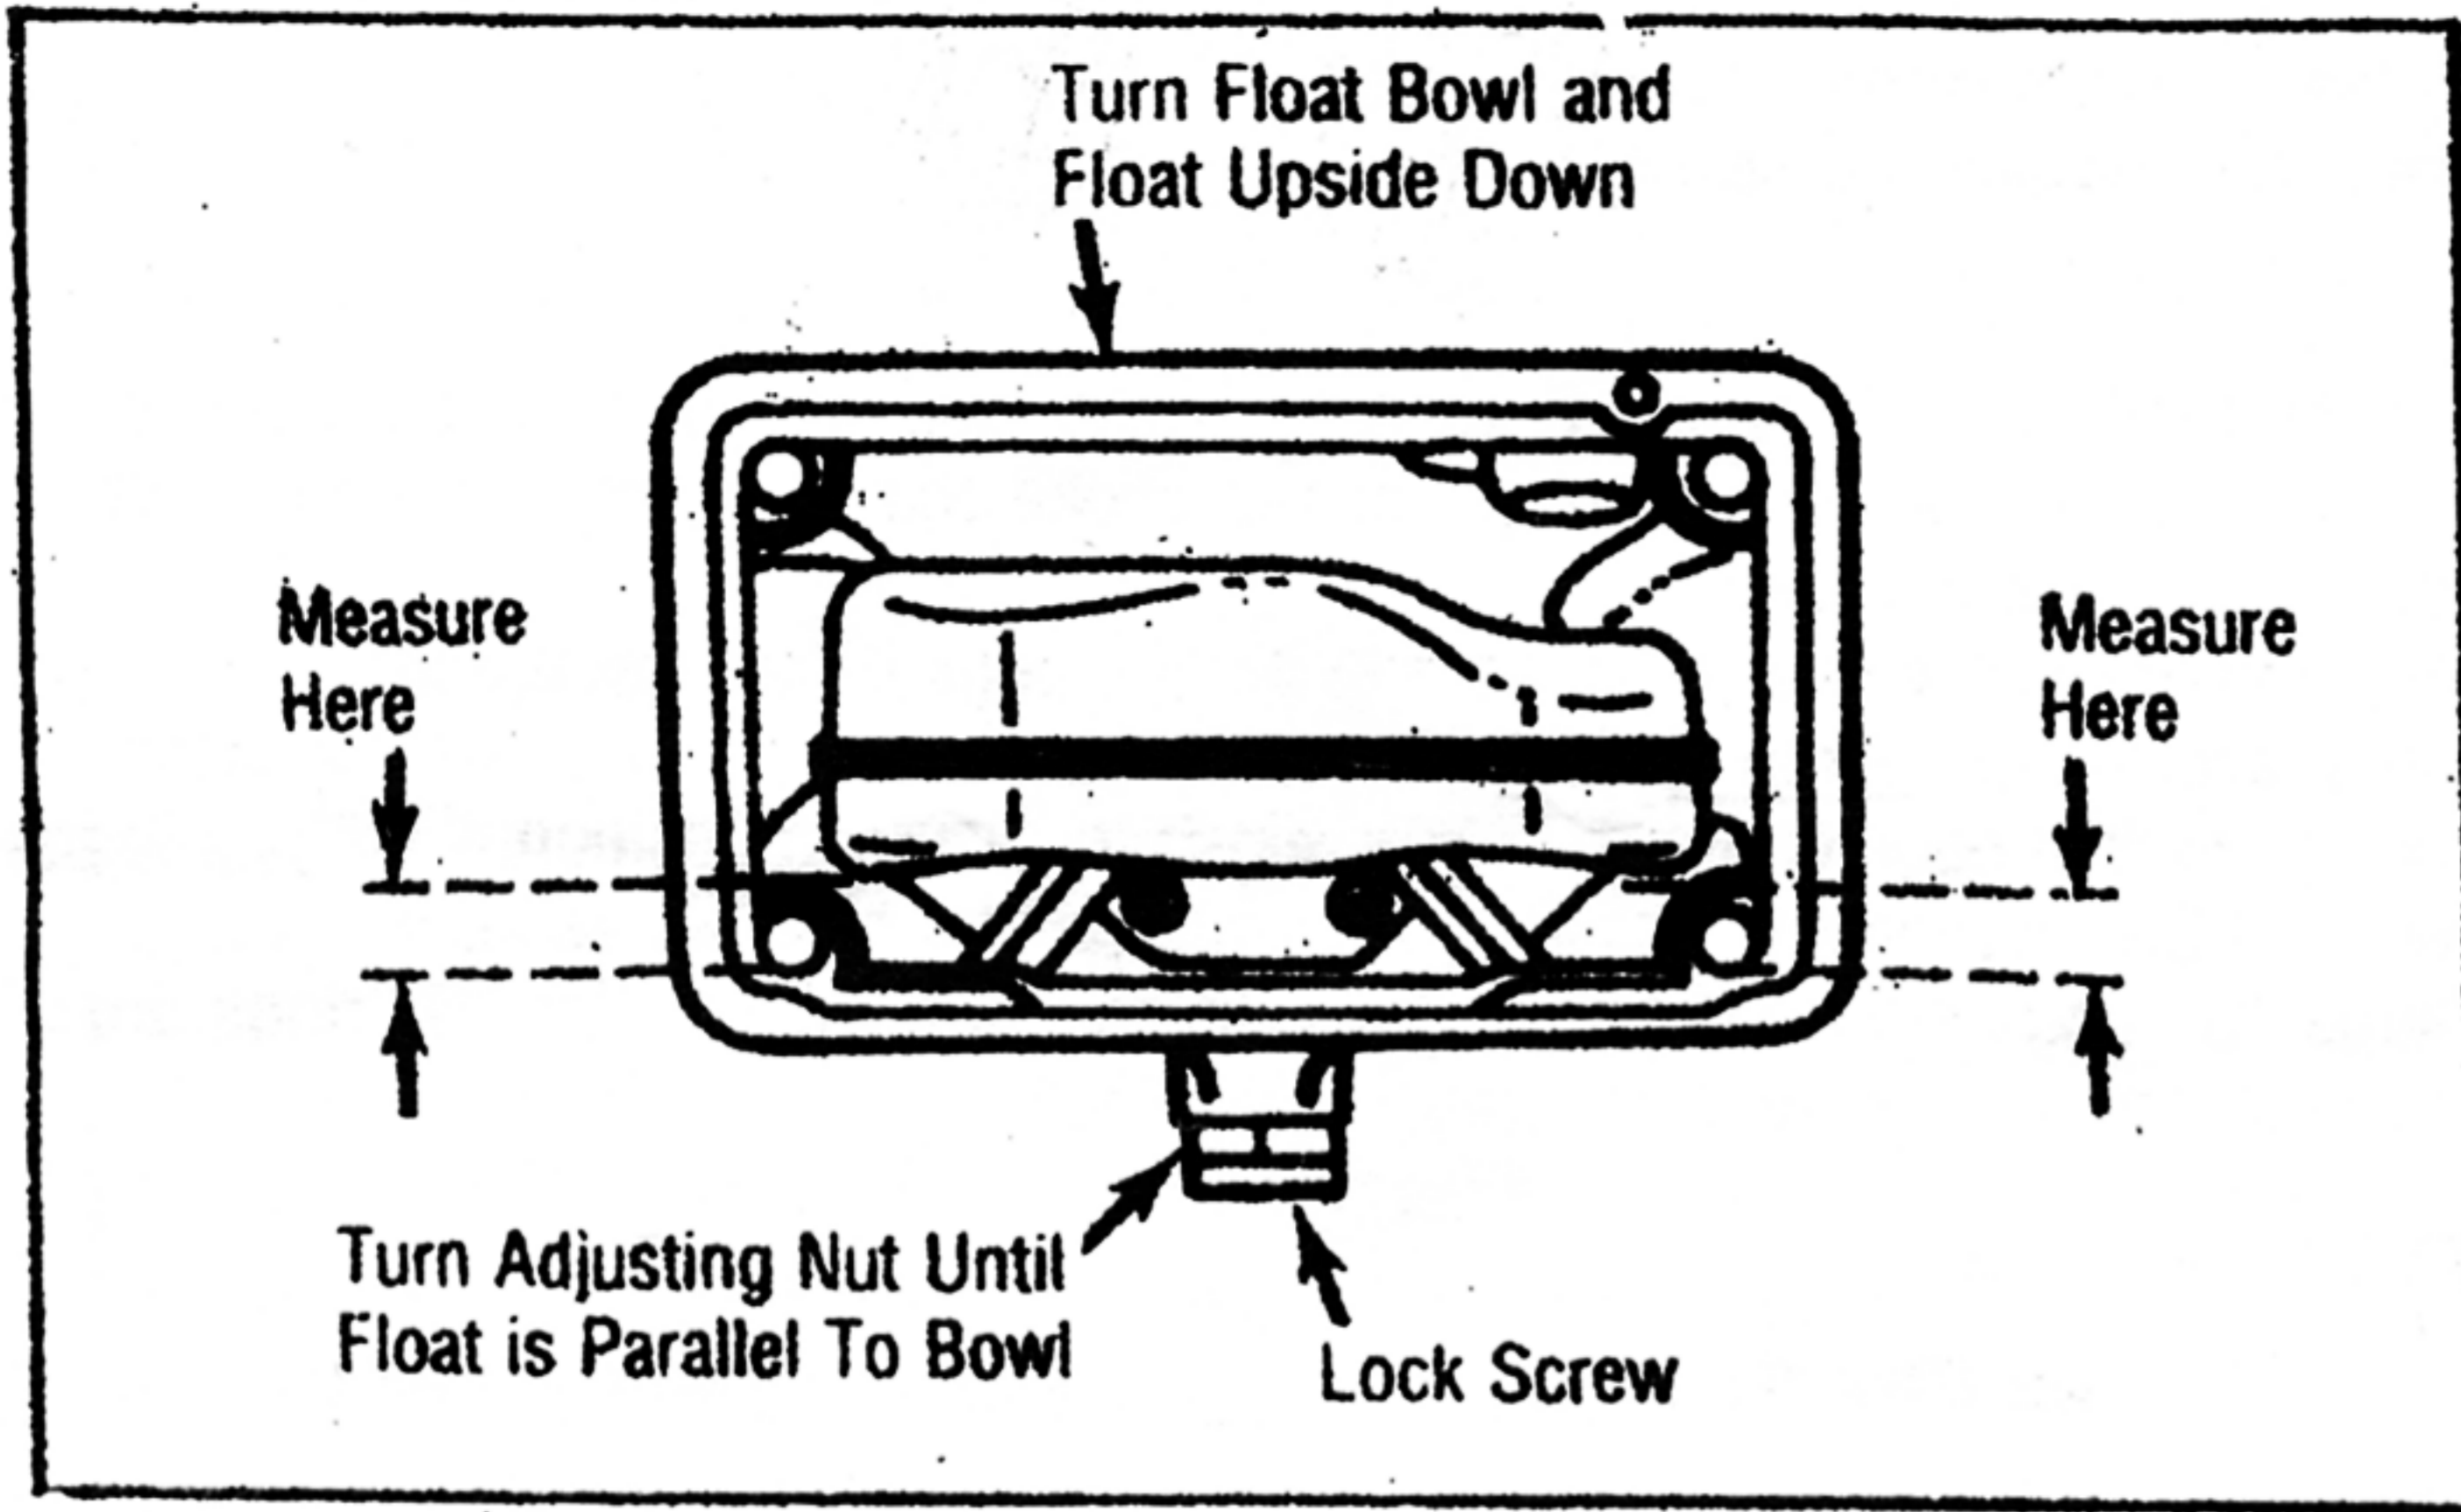

Fig. 4 Float Level Adjustment - Dry Setting (Type C - If Equipped)
- Remove and invert float bowl. Float should rest on fuel inlet needle, equidistant from top and bottom inside surface of float bowl. See Fig. 4.